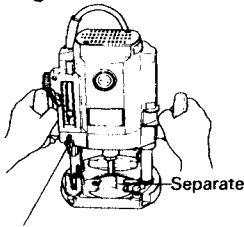

Fig. 17
- (1) As shown in Fig. 17, remove the bit from the work pieces and press the switch lever up to the ON position. Do not start cutting operation until the bit has reached full rotating speed.